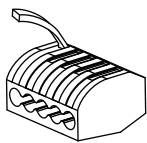
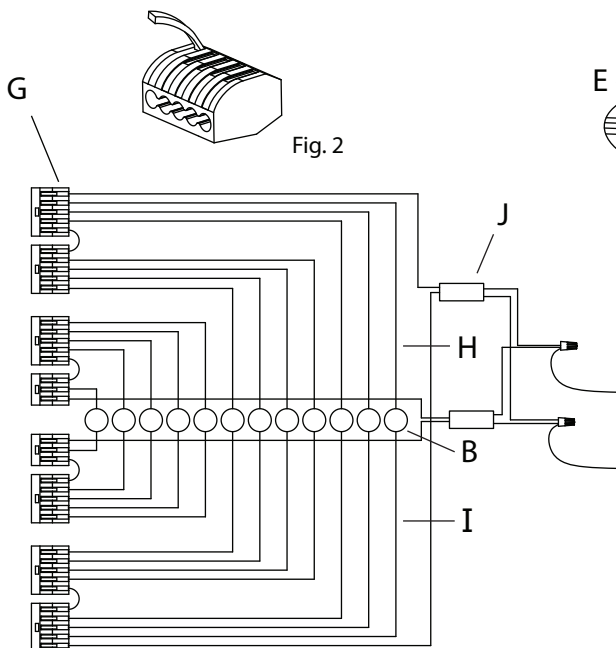

Fig. 2
Fig. 3
1. Shut off power to the outlet box. (A)
2. Feed the power cords (B) through the bushings (C) on canopy (D).
3. Determine the height at which the fixture is to be hung. Use the screwdriver (E) to loosen the set screw (F). Adjust the cord (B) to the desired length. Tighten the set screws to set.
4. Connect the fixture wires to the lever nuts (G) by pulling up on the lever for an empty slot (Fig. 2), inserting the wire, and pushing the lever back down to lock. The white inner conductor (H) and black outer conductor (I) on each cord (B) must be connected to separate lever nuts, as shown (Fig. 3).
5. Reserve transformers (J), extra cords (B) and lever nuts (G) in canopy (D).
6. Loosen the screws on the safety cable coupling (K) and undo the loop. Pass the safety cable through a hole on the cross bar (L) and insert the end back through the coupling to form a loop. Tighten the coupling screws to secure the safety cable.
- a. Connect the transformer's (J) live wire (black) to the live outlet box wire.
- d. Carefully place connections in outlet box (A).
8. Attach cross bar (L) to the outlet box (A), secure with outlet box screws (M).
9. Attach canopy (D) to nipple (N), secure with large washer (O) and finial (P).